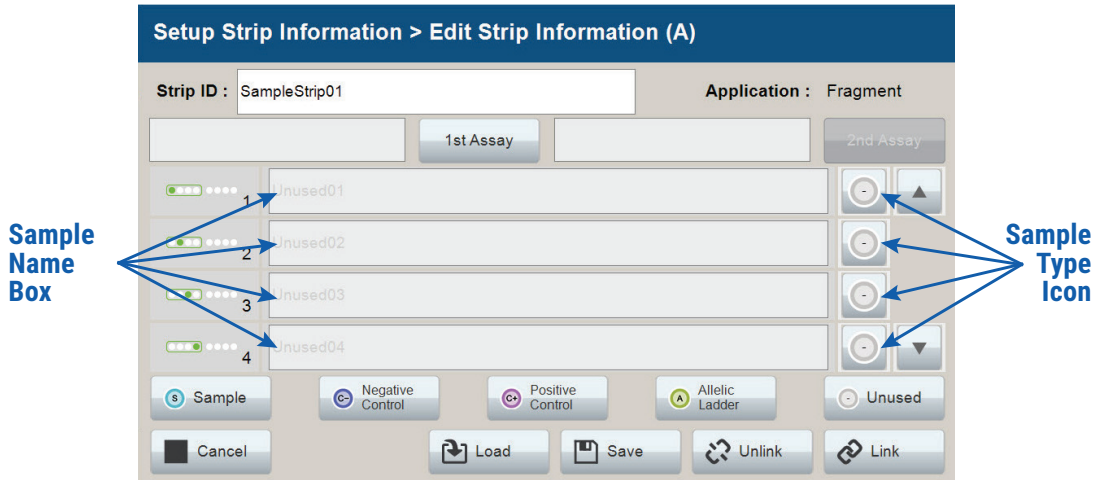
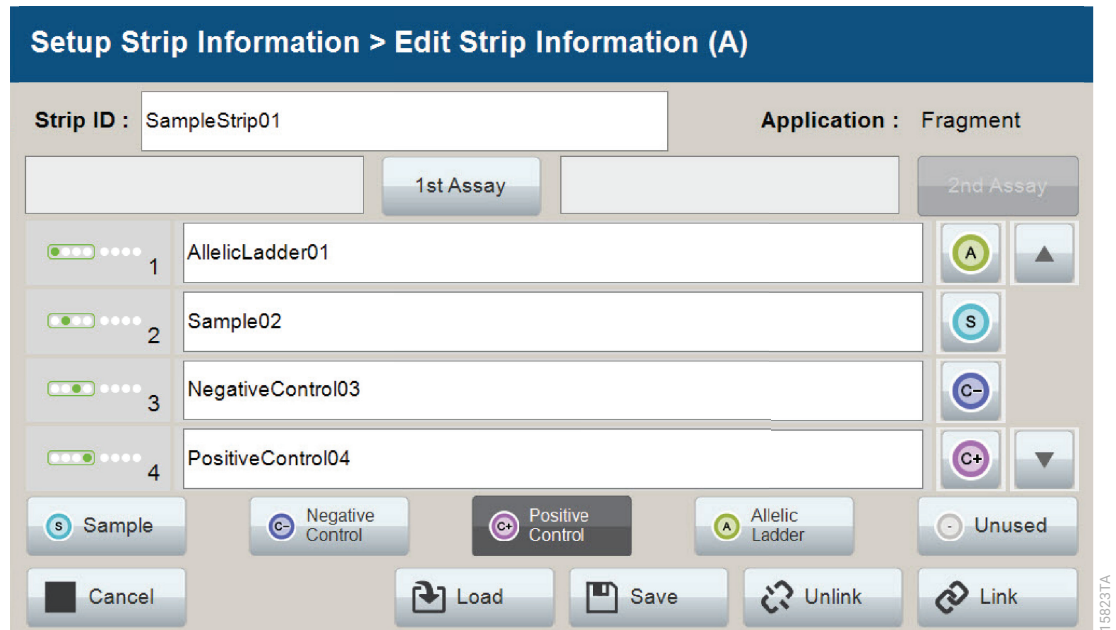
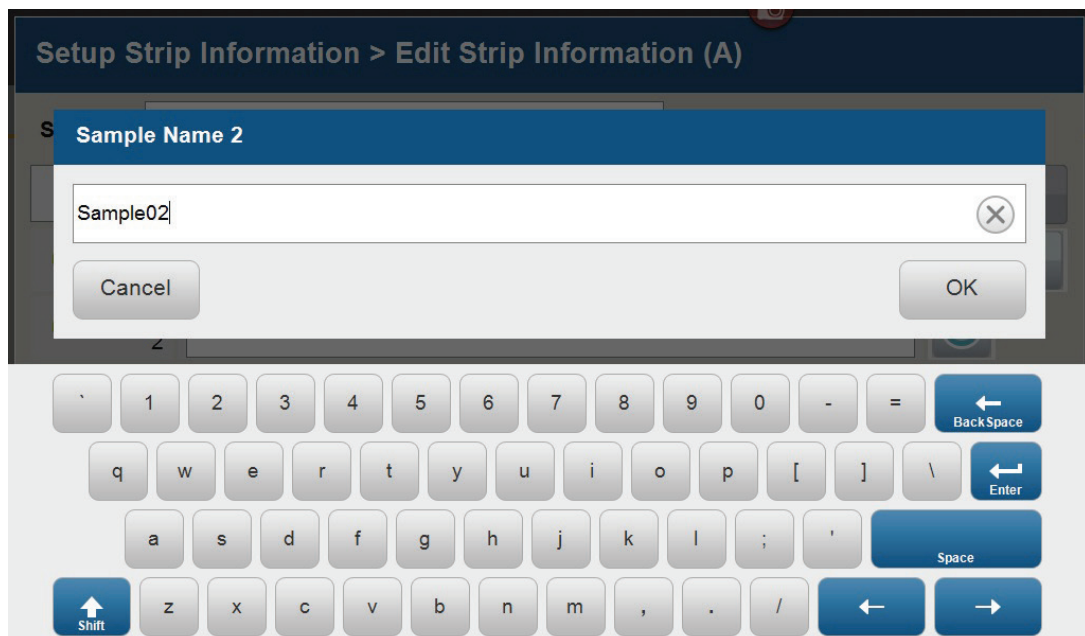
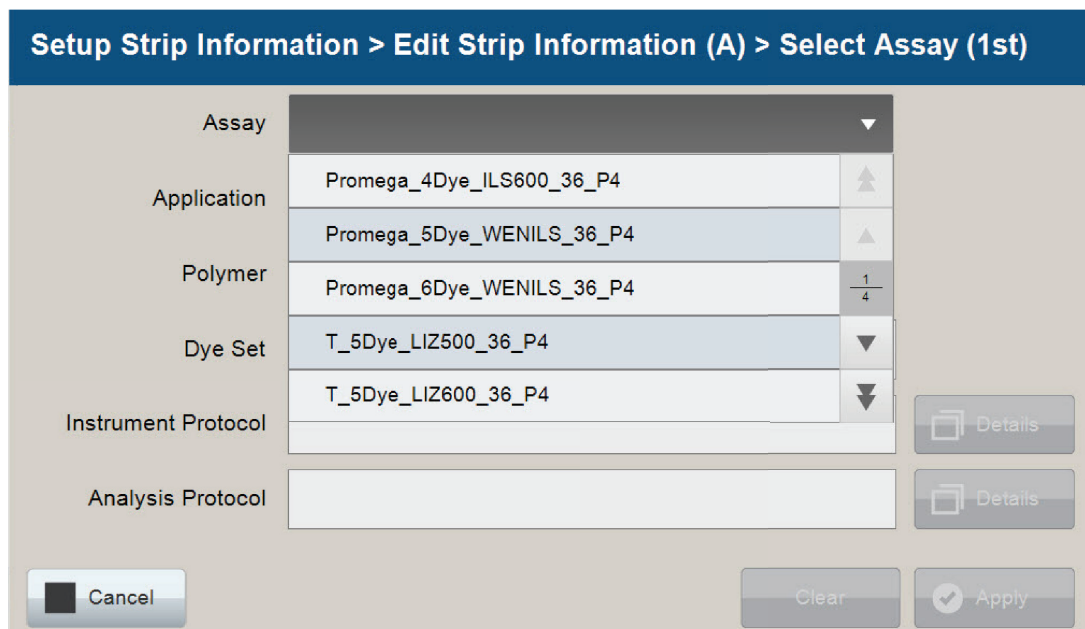

Figure 12. Sample Type and Sample Name on 'Edit Strip Information' screen.
Figure 13. Sample Name Entry on 'Edit Strip Information' screen.
Figure 14. 'Set Sample Name' window.
Figure 15. 'Select Assay' window.
4. Select a sample type on the 'Edit Strip Information' screen (Figure 12). Sample types must be selected for each well position before the Sample Name box becomes active for entry of sample name. Sample types are as follows.
5. To assign a sample type to a well, select the appropriate sample type along the bottom of the 'Edit Strip Information' screen (Figure 12), and then select the **Sample Type** icon to the right of the sample name field for the desired well. This icon will then display the sample type selected for that well (Figure 13).
6. Enter a sample name for each well position by selecting the Sample Name box adjacent to the well number on the 'Edit Strip Information' screen (Figure 13). This opens the 'Set Sample Name' window and a keypad will become active on the touch screen (Figure 14). Alternatively, the Sample Name can be entered using a traditional keyboard if one is connected to the Spectrum Compact CE System. Enter the appropriate sample name, and then select **OK** to exit and return to the 'Edit Strip Information' screen.
- The Spectrum Compact Control Software includes preloaded run assays for use with chemistries available from Promega. Refer to the *Spectrum Compact CE System Operating Manual #TMD058* for information on creating or modifying assays. To assign a run assay to an injection set, select **1st Assay** on the right side of the 1st Assay field (Figure 13). This opens the 'Select Assay' window (Figure 15). Select "Promega\_5Dye\_WENILS\_36\_P4" from the drop-down list (Figure 15) and then select **Apply**.